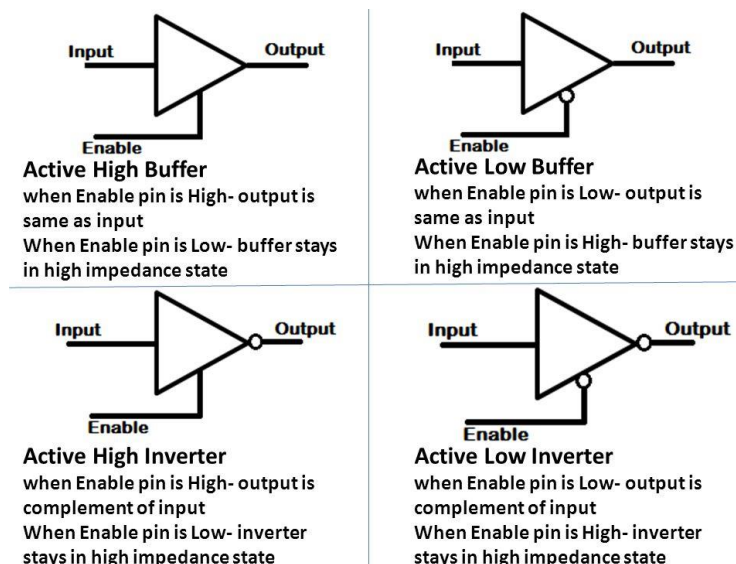

Fig. 33 States of Tri-State Device
- The microprocessor communicates with one device at a time by enabling the tri-state line of the interfacing device. Tri-state Devices shown in fig.33.